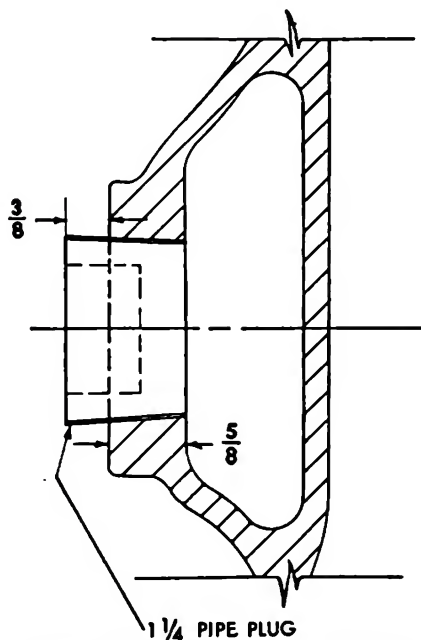

Fig. 2-26. Pipe plug installation
2. If not already in use, 1 1/4" pipe plugs should be installed in the water header in place of the expansion plugs. (Exception: If wall thickness is less than 1/2", expansion plugs must be used.) To install the pipe plugs it will be necessary to enlarge the hole with a 1 1/4" American standard taper pipe reamer to the size of the plug counter-bore and tap with a 1 1/4" pipe tap deep enough so a 1 1/4" countersunk pipe plug can be installed as shown in Fig. 2-26. A lead sealer should be used on the pipe plug threads.